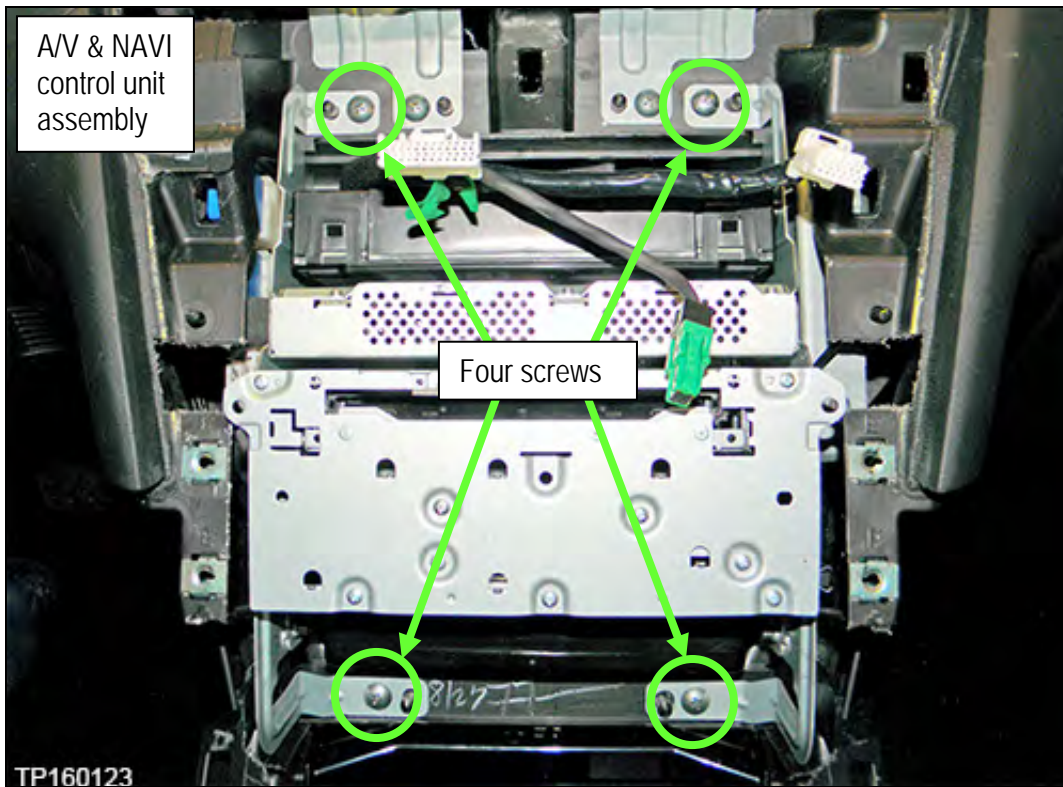

Figure 27D
10. Remove the A/V & NAVI control unit assembly (Figure 27D):